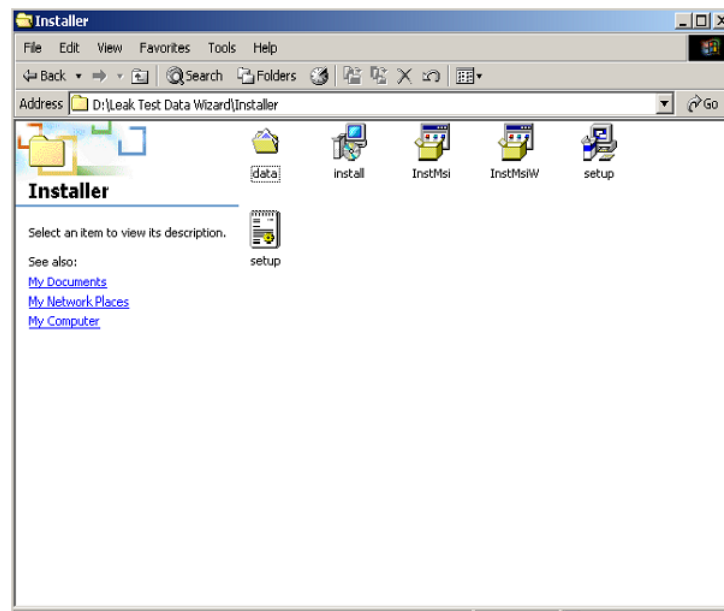

Figure 1-4 Installer Folder
3. Open *Installer* folder and select *Setup* (Figure 1-4).